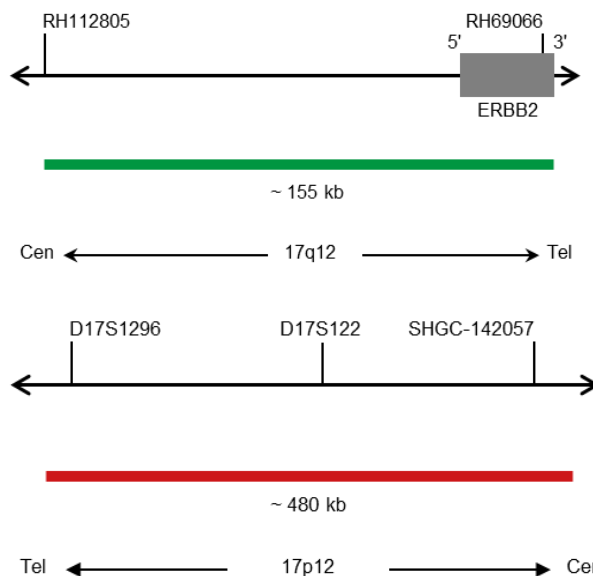

Fig. 1: Top: SPEC ERBB2 Probe map, Bottom: SPEC D17S122 Probe map (not to scale)
- Digoxigenin-labeled polynucleotides (~1.1 ng/ $\mu$ l), which target sequences mapping in 17q12\* (chr17:37,725,661-37,882,844) harboring the ERBB2 gene region (see Fig. 1).
- Dinitrophenyl-labeled polynucleotides (~1.1 ng/ $\mu$ l), which target sequences mapping in 17p12\* (chr17:14,954,785-15,434,017) harboring the D17S122 locus (see Fig. 1).